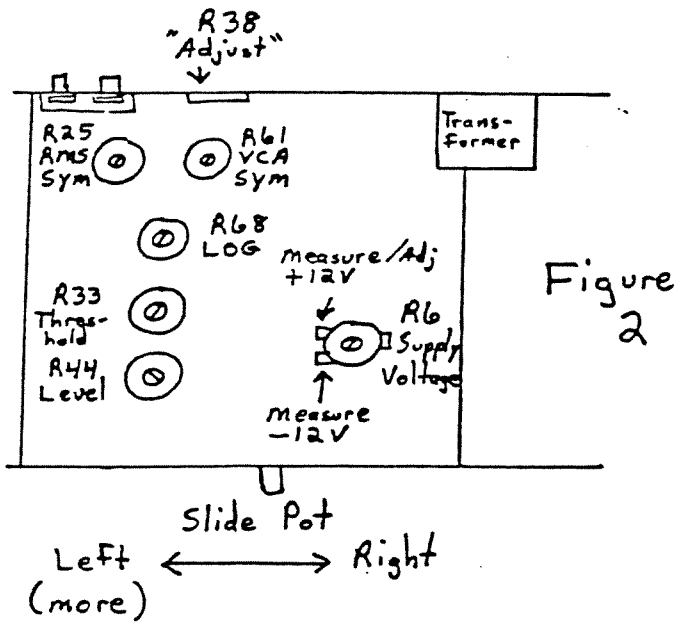
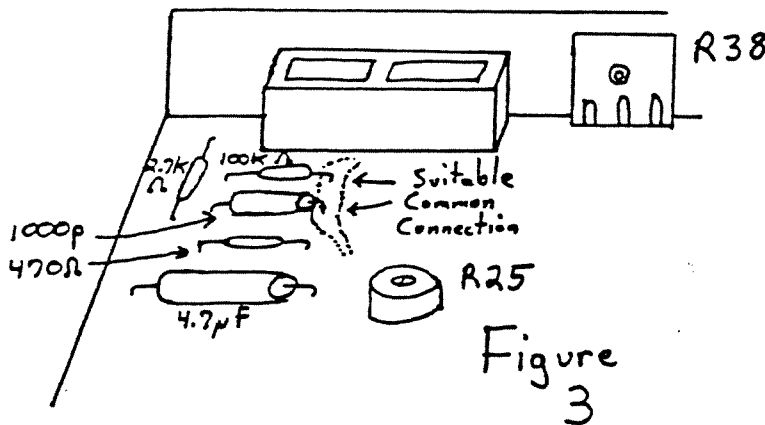

Figure 2
Figure 3
- a) Adjust R6 (Supply Voltage) for +12 +/- .1 VDC at point indicated in Figure 2. Common lead of voltmeter can be connected to point shown in Figure 3.
- b) Measure for -12 +/- .4 VDC at point shown in Figure 2.
- d) Set sliding pot to right (less). See Figure 2.